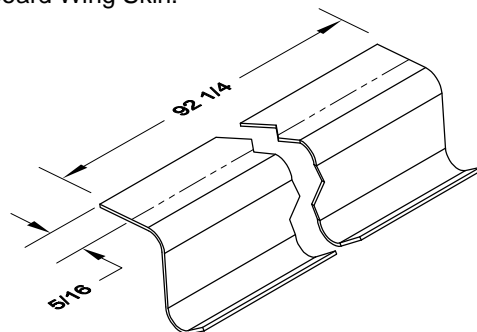

FIGURE 1: J-STIFFENER DETAIL
Step 1 (Quick Build): Fabricate the **W-1028A** Wing Box J-Stiffener - Long by cutting a piece of J-channel, 92 1/4 inches long. Draw a centerline on the flange as shown in Figure 1.